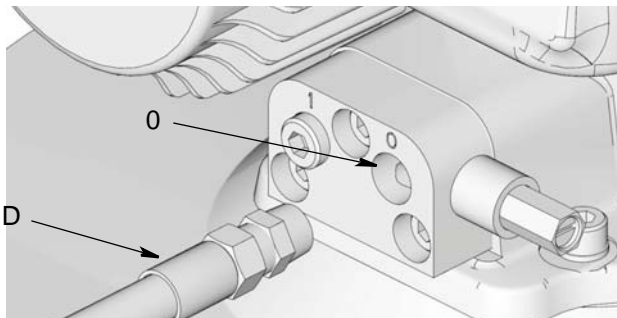

FIG. 11: Lubricant Outlet Connection
8. Connect the timer/controller (F) (user supplied, if used).
9. Connect High Pressure Lubricant Supply Line (D) to the Lubricant Output Connection (O) (FIG. 11) on the Vent Valve or Manifold.